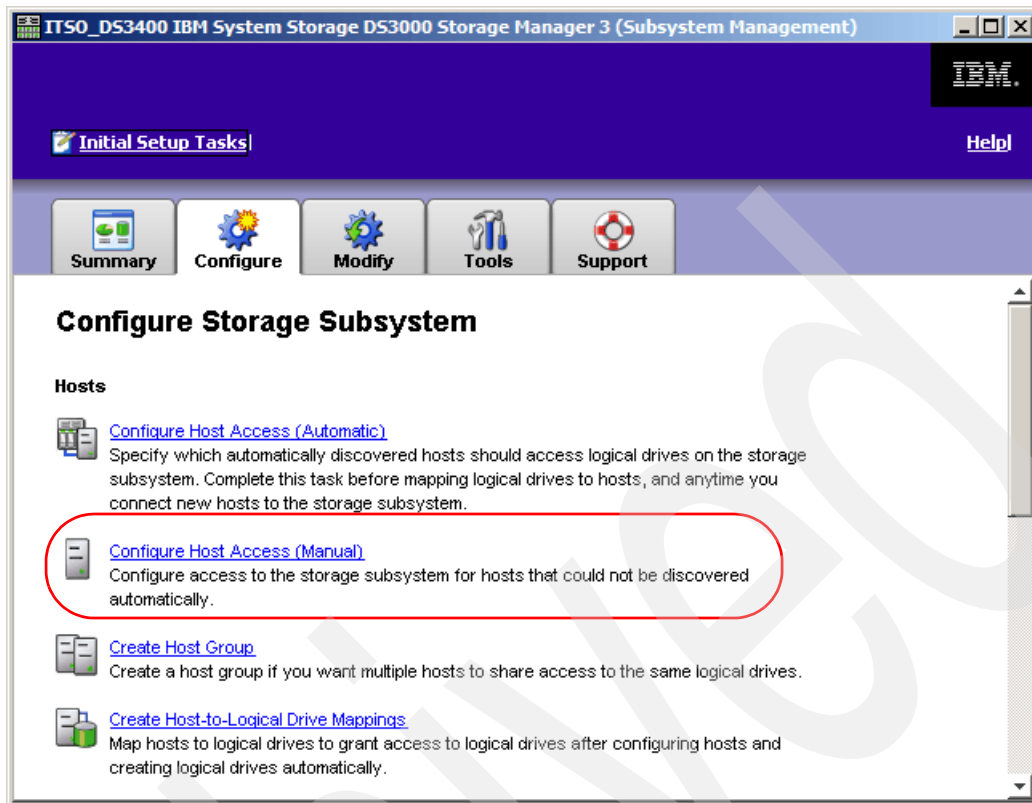

Figure 27-12 Configure Host Access (Manual)
1. In the DS3000 Storage Manager subsystem management window, select the **Configure** tab, and click **Configure Host Access (Manual)**, as shown in Figure 27-12 on page 683.